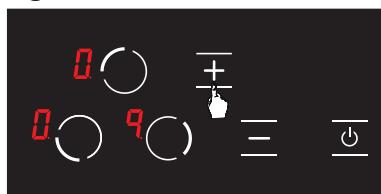

Figure 12
2. Using the **+** key, set the cooking level of the relevant hob as **q**. (See Fig. 12)